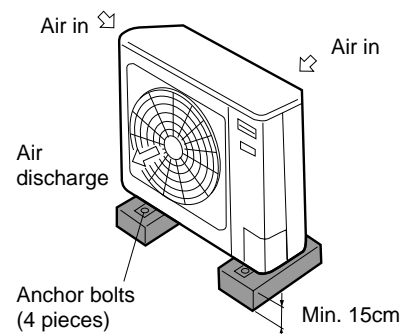

Fig. 2-3
- provide a solid base; about 15 cm above ground level to reduce humidity and possible water damage in unit and decrease service life. (Fig. 2-3)
- provide a solid base (concrete block, 10 × 40 cm beams or equal), a minimum of 15 cm above ground level to reduce humidity and protect the unit against possible water damage and decreased service life. (Fig. 2-3)